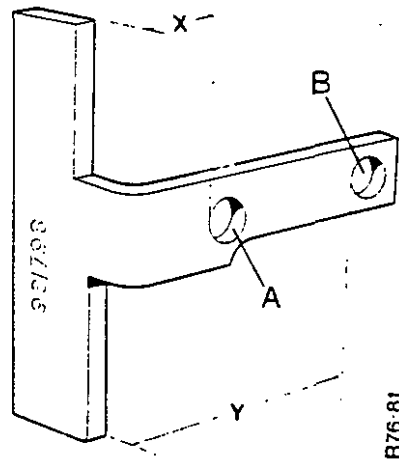
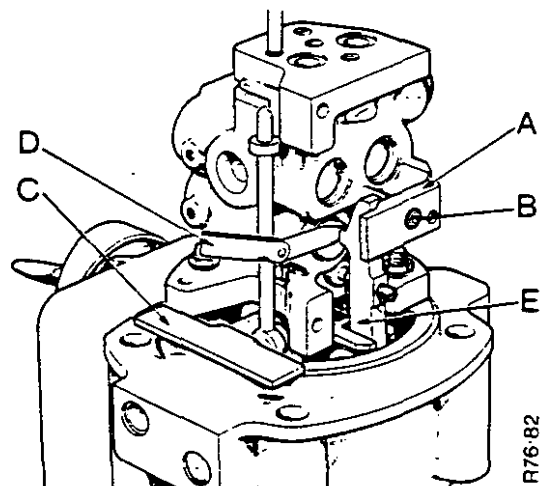
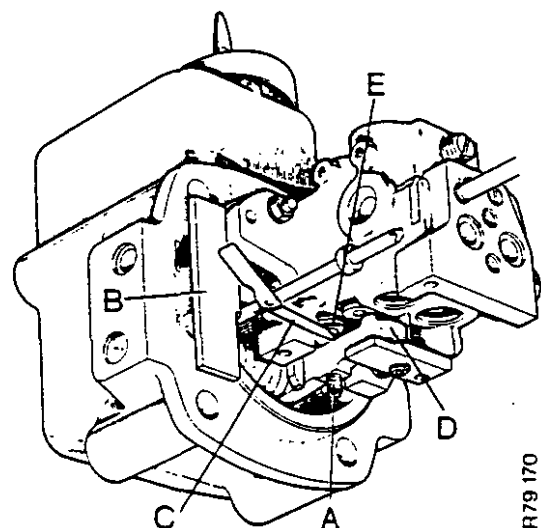

FIGURE 77. SETTING GAUGE
FIGURE 78. STOP PLATE SETTING
FIGURE 79. TCU SCREW SETTING
1. Fit the original shims and stop plate 'A' on to the valve body (see Figure 78). Make sure that the shims and the stop plate are on their seat. Use the screw 'B' to hold the shims and plate in position. Make sure that the screw is tight.
3. Put the setting gauge into the position shown in Figure 78. The top hole in the setting gauge (hole 'A' Figure 77) must be engaged with the pin for the rocker shaft. The flat face of the setting gauge must be against the shoulder on the ramshaft bracket.
2. Put the setting gauge into the position shown in Figure 79. The bottom hole in the gauge (hole 'B' Figure 77) must be engaged with the pin for the rocker shaft. The flat face of the setting gauge must be against the shoulder of the ramshaft bracket.